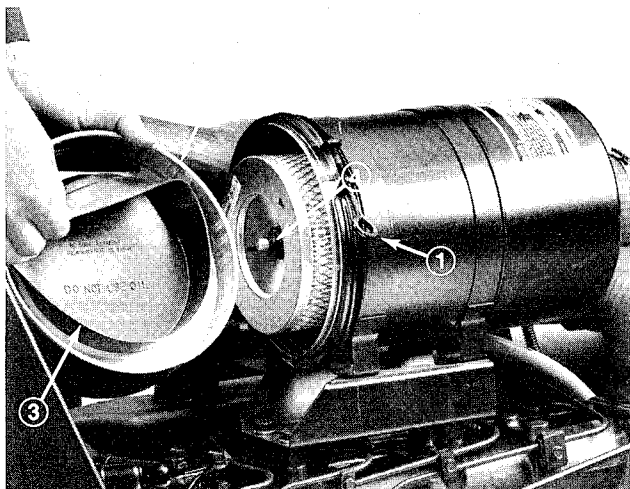

Figure 44
Once each week or every 50 hours operation, inspect and clean the dust cup and rubber baffle. However, daily or more frequent inspection is necessary when operating conditions are extremely dusty and dirty (Fig. 44).
2. Loosen thumb screw until dust cup and baffle can be removed (Fig. 44). Separate baffle from dust cup (Fig. 44).